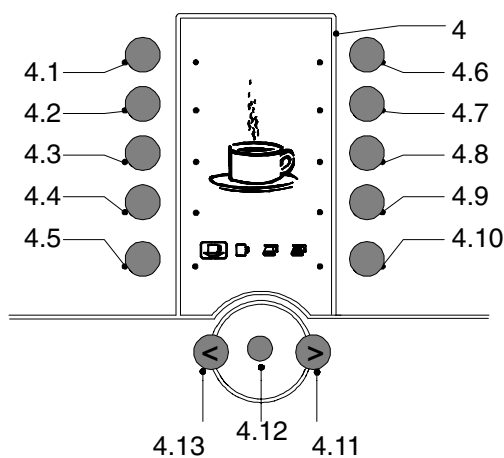
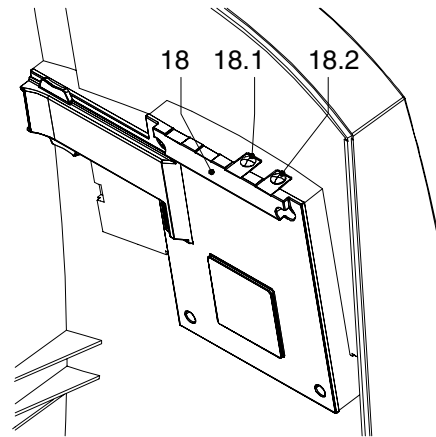

Fig. 2 Operating panel front
Fig. 3 Operating panel inside
The machine is provided with two operating panels, one at the front (fig.2 ) and one at the inside (fig.3 ). During normal daily use of the machine by the consumer, only the operating panel at the front is used. For programming and specific activities the operating panel at the inside is important as well.
- The display (4.) shows during normal use while programming, rinsing or descaling the machine and in the case of failures various symbols, values and messages that will be explained in this manual. Fig.2 displays the basic position (operational position).